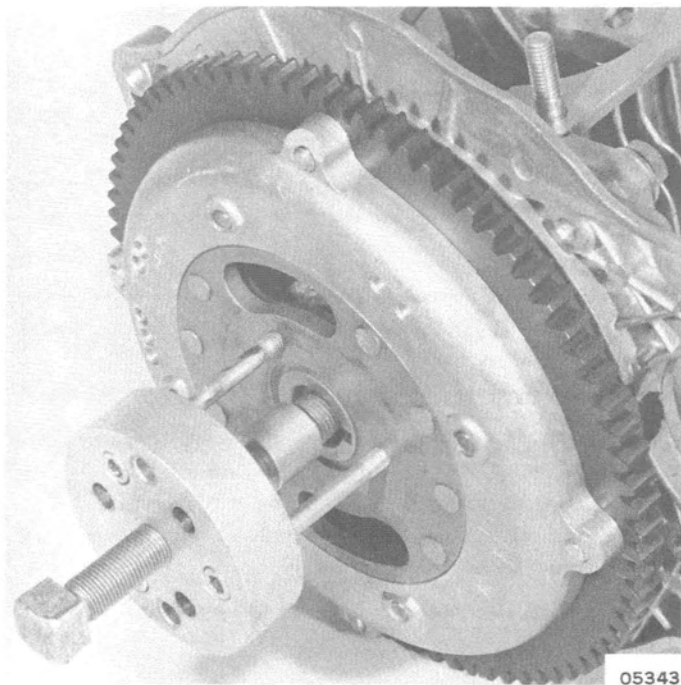

Figure 3. Flywheel Removal
5. Install Puller Tool C-91-24695 (use three 2½" x 6mm bolts C-10-58174) to attach puller to flywheel. (Figure 3)